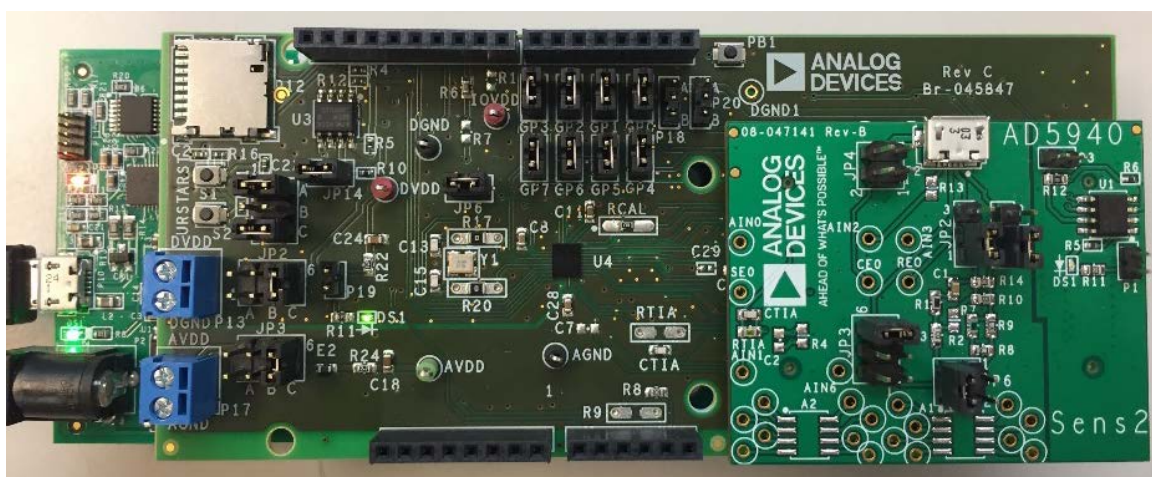

Figure 41. Hardware Setup for Electrochemical Impedance Validation Test
2. Plug the AD5940Sens2 daughter card into the AD5940ARDZ board as in Figure 41.